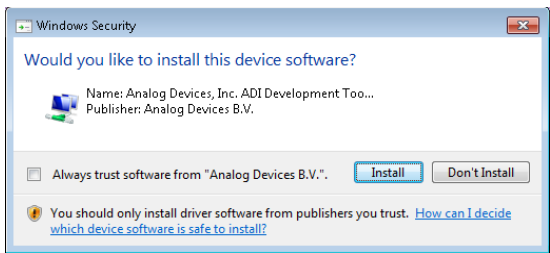

Figure 8. Windows Security Dialog Box
3. Click **Install** again to proceed with the installation (see Figure 8).